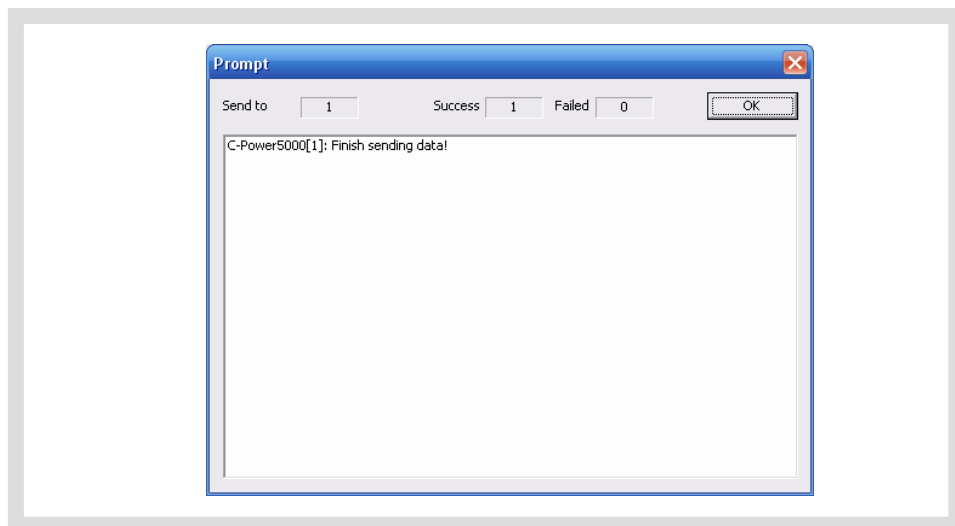

Figure28 Data sending completed
- 3) When sending is completed, the prompt box “Finish sending data” pops up, as shown in Figure28: